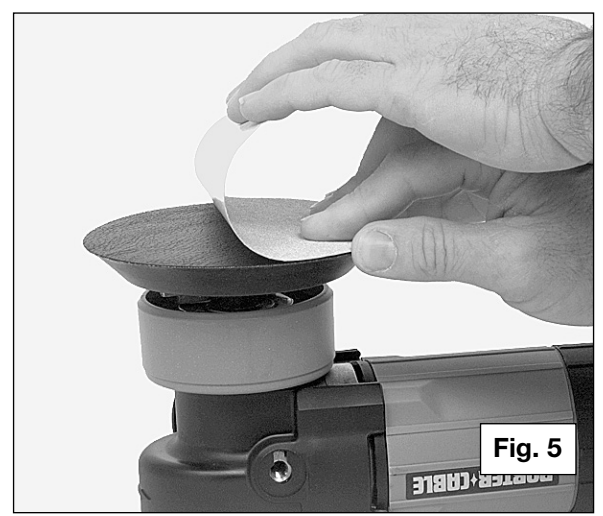

Fig. 5
1. Place the tool on the work-bench with the pad up (Fig. 5).